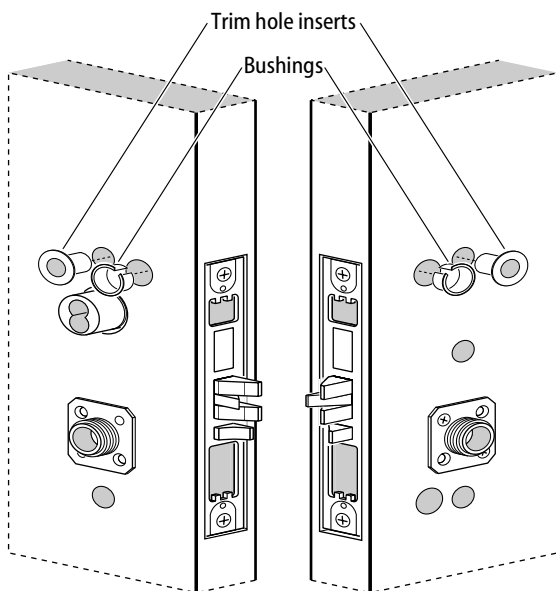

Figure 11 Installing the trim hole inserts and bushings
- 1 Insert the two trim hole inserts into the upper trim hole on each side of the door, as shown in Figure 11.
- 2 Insert the two bushings into the harness hole on each side of the door, as shown in Figure 11.